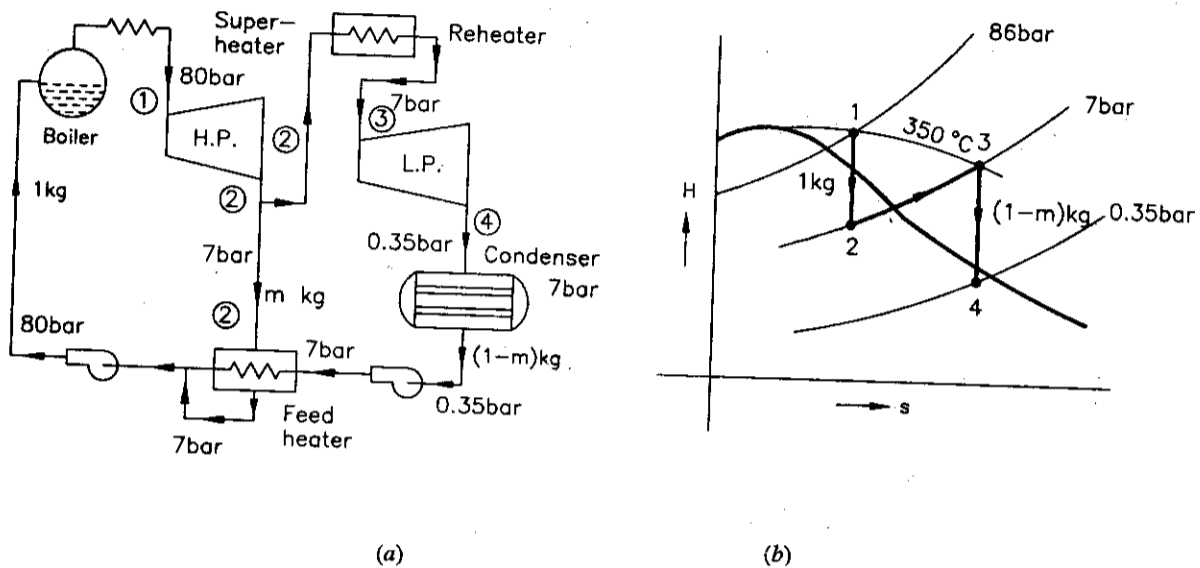

Fig. Prob. 22.23.
**Solution.** The arrangement of the components is shown in Fig. Prob. 22.23 (a) and the processes are represented on  $h$ - $s$  chart as shown in Fig. Prob. 22.23 (b).